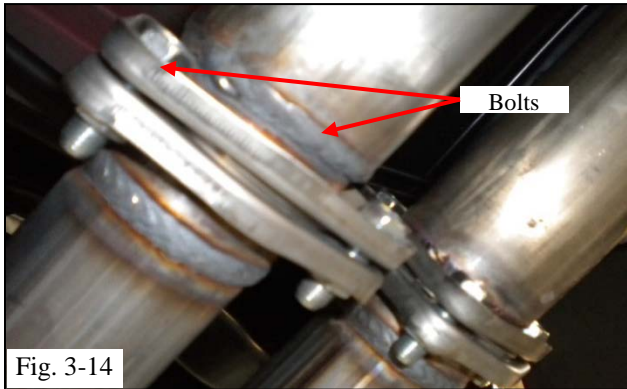

Fig. 3-14
**Torque: 35 ft-lbf (48 N-m) (Fig. 3-14)**